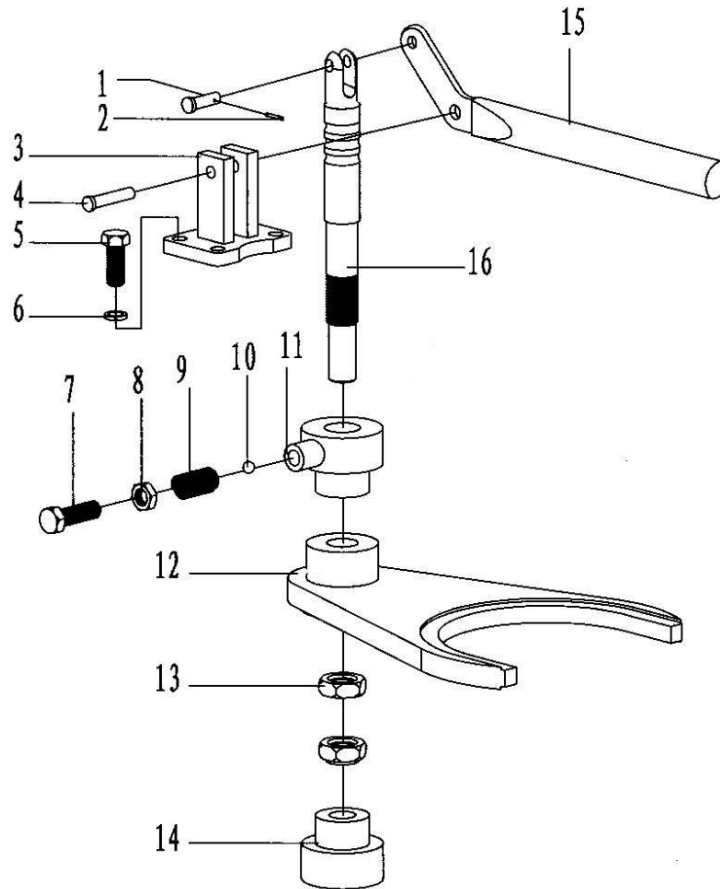

Fig 17
7.17 Gear shifting assembly(below) (Fig 17, Table 17)